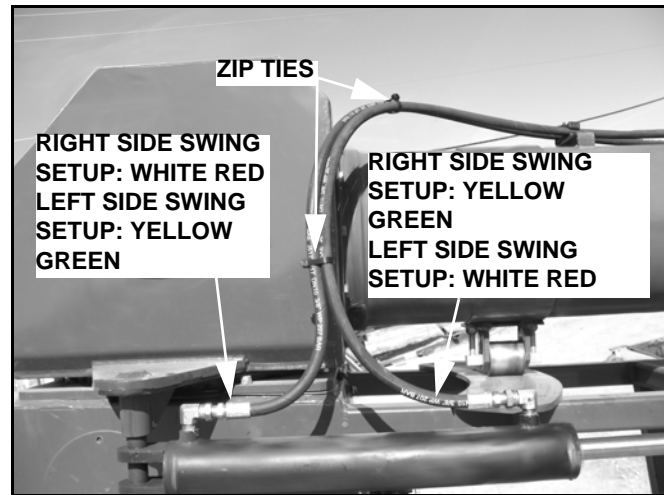

Figure 3.73
- Loosely connect hydraulic hose holders to swing and flex tubes. Note that only two hose holders are required at the top end of the flex tube (Figure 3.73). Three hose holders stacked together can hold four hoses, two hose holders stacked together can hold two hoses. Refer to Figure 3.65.
14. Secure other ends of hoses to flex tube cylinder as shown in Figure 3.73 and secure with zip ties.